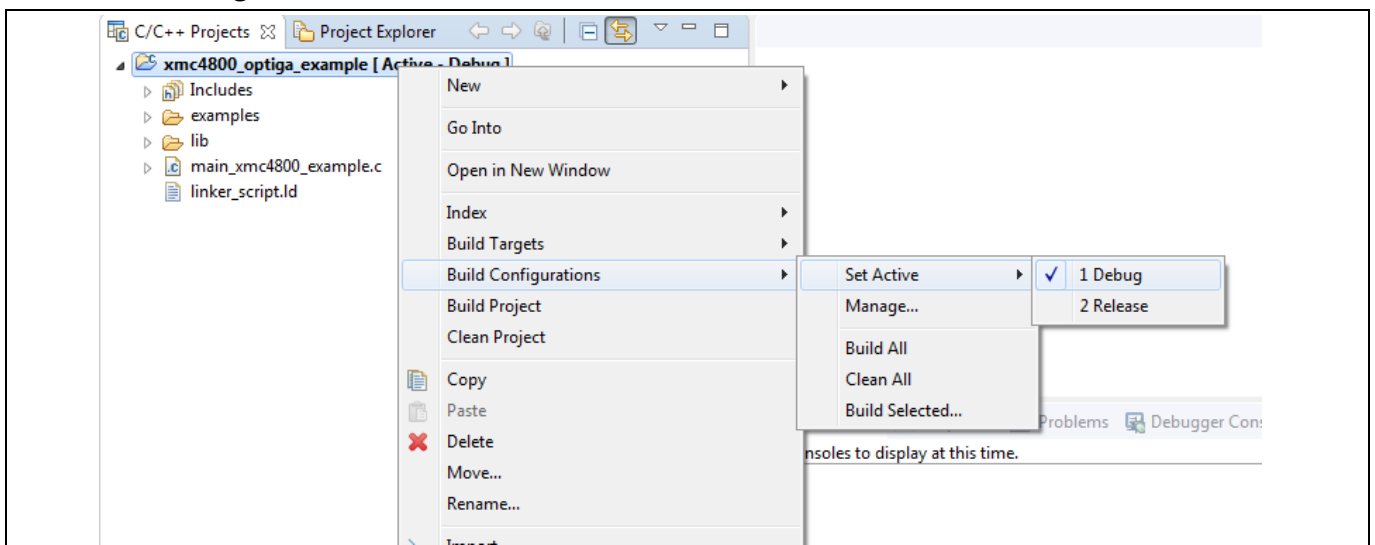

Figure 22 Build configuration selection
- 15. To build project in release configuration, select the build configuration as **Release** as shown in Figure 22 and build the project again.